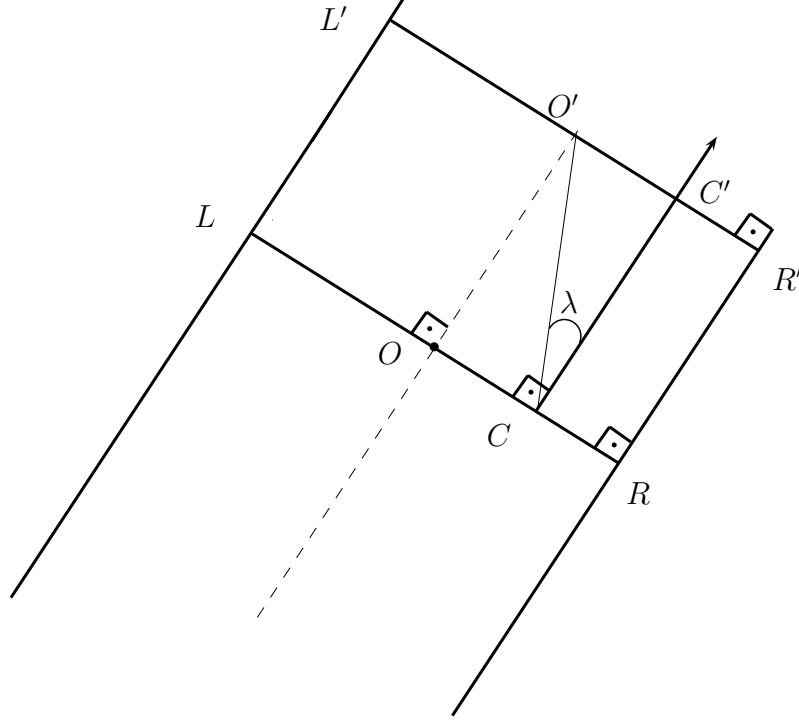

Figure 1: The vehicle's heading angle is equal to that of the lane's. However, its position is off track.
**Translational component** We assume that the pose of the vehicle at time  $t$  is  $(x_c, y_c, v_c, \psi_v)$  and that two range scans at  $+90^\circ$  and  $-90^\circ$  with respect to the longitudinal axis of the vehicle are available, which are denoted as  $CL$  and  $CR$  respectively. Also, in figure 1, point  $O'$  is a future reference and the angle  $\lambda$  is the angle that the vehicle should make in order to reach  $O'$  in a future moment.